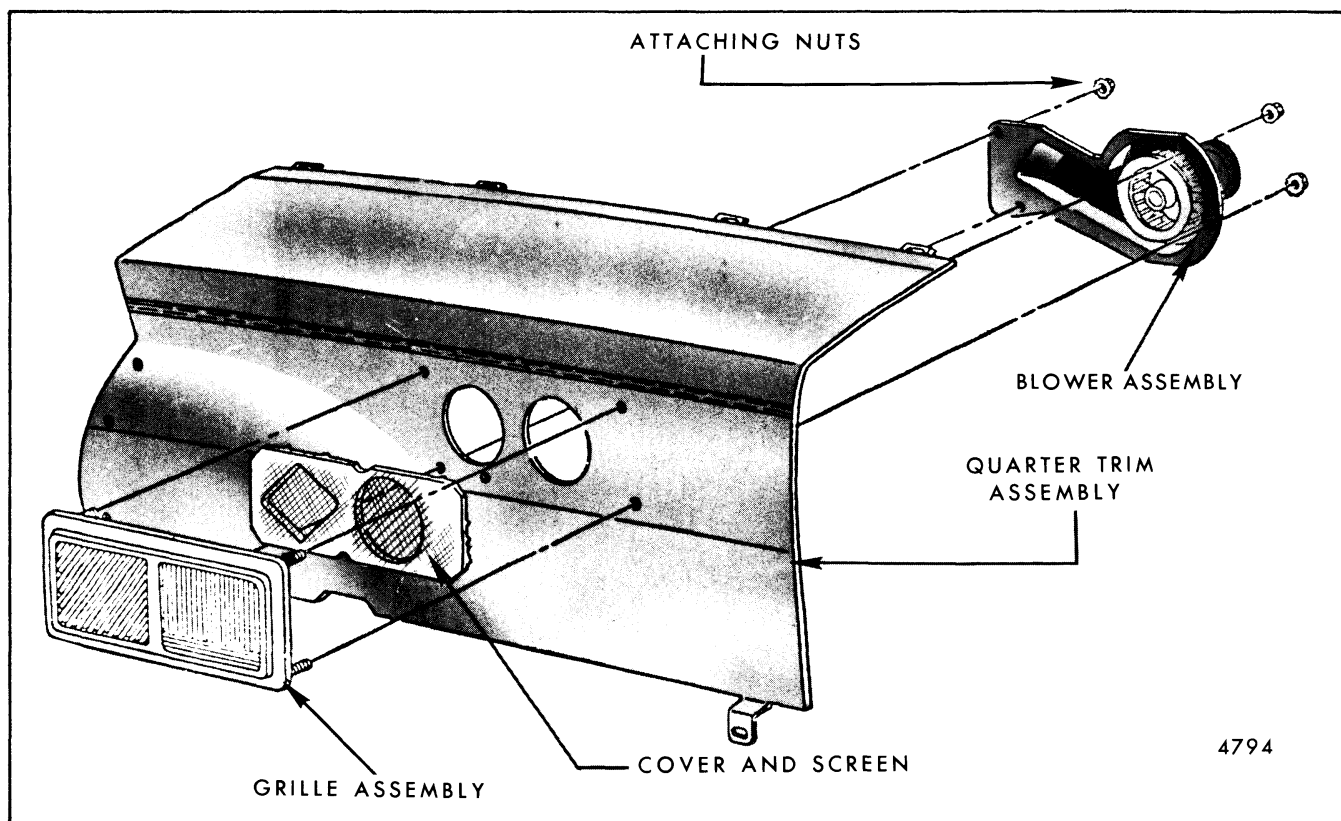

Fig. 6-20-Back Window Defogger - "B" Station Wagon Styles
Air is drawn into the motor assembly adaptor or duct at the intake grille and forced out through the outlet grille against the back window at the top or side of the quarter trim assembly (see Figs. 6-20 and 6-21).
On "B-35 and 45" styles remove four (4) attaching nuts to separate blower assembly from grille, cover panel, and screen (see Fig. 6-20).